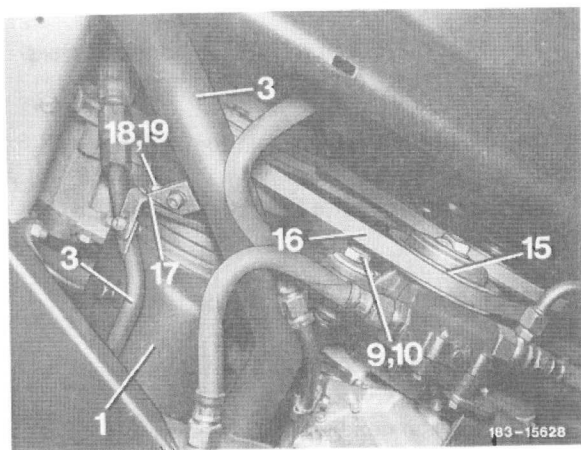

Fig. 162
9 Unscrew screw (9) (Fig. 162).